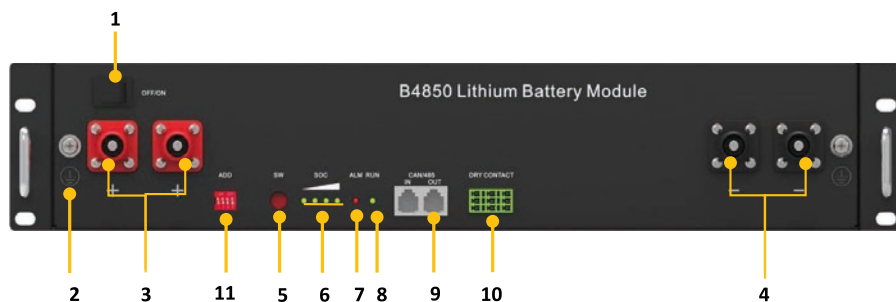

Fig. 4.1 - B4850
- After the indicator self-test, the RUN indicator will light and the SOC indicator will be on (100% SOC status in the Figure 4-1).